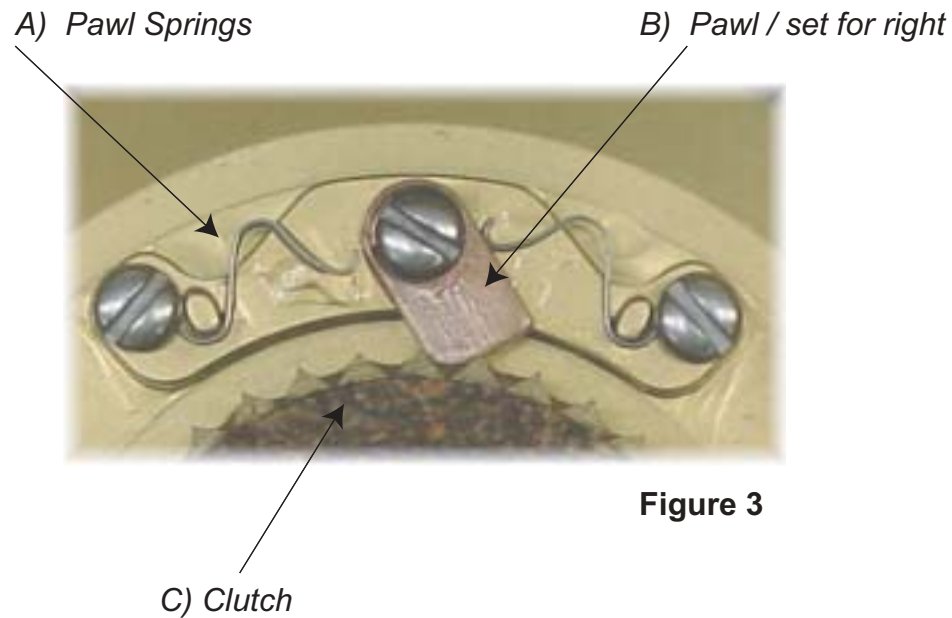

Figure 3
3. The converted right-to-left hand pawl/clutch assembly should look similar to Figure 4 for left hand retrieve and Figure 3 for right hand retrieve.